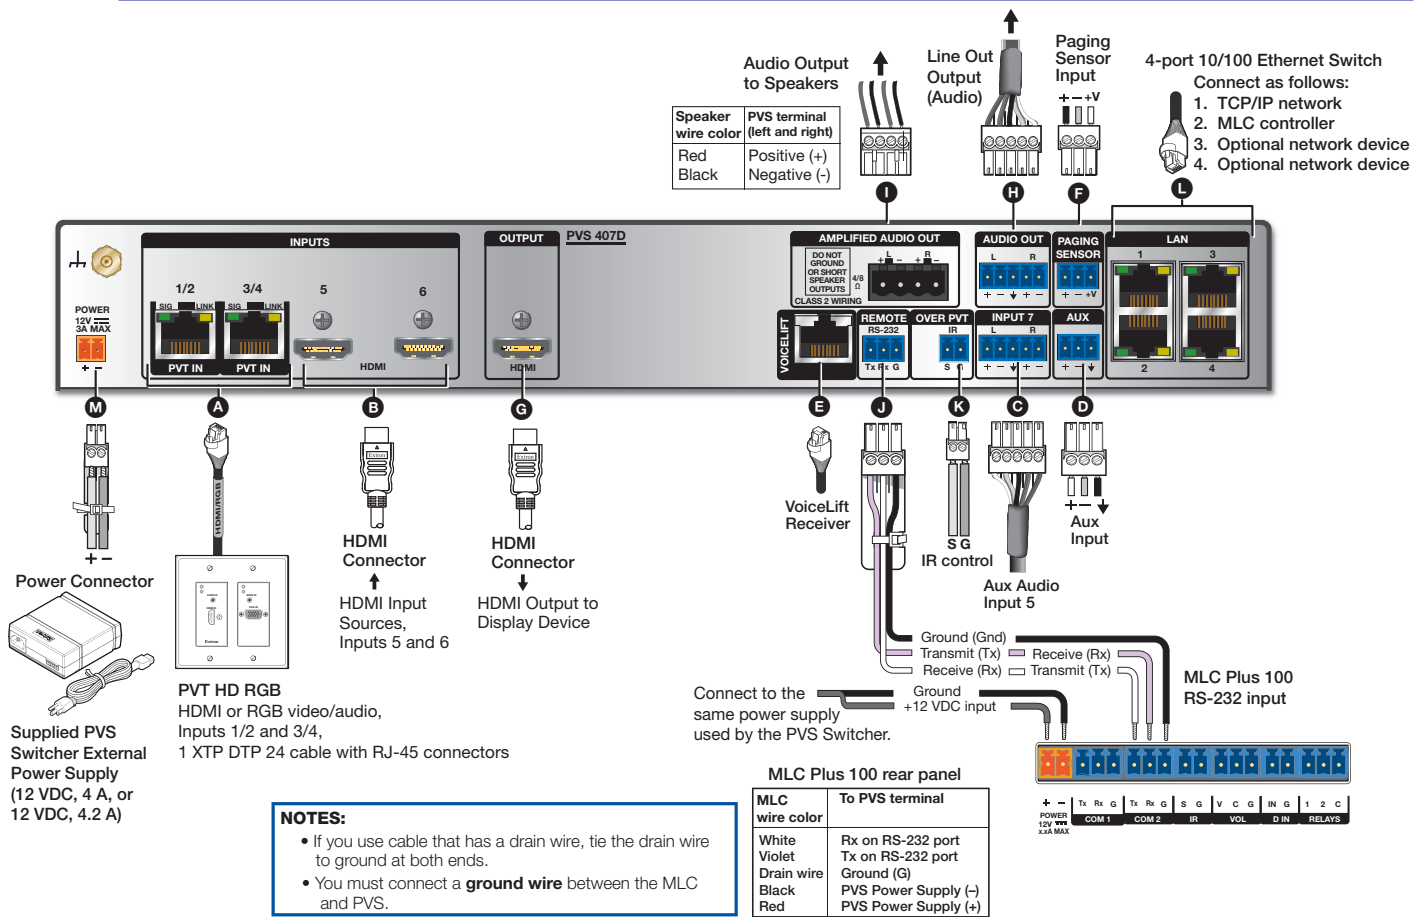

Figure 7. Cabling the switcher (PVS 407D shown)
- Connect the cables from the PVT wallplates, control device (MediaLink Controller), speakers, and optional accessories (VoiceLift® and Page Sensor Kit) to the rear ports of the switcher (see figure 7 below).